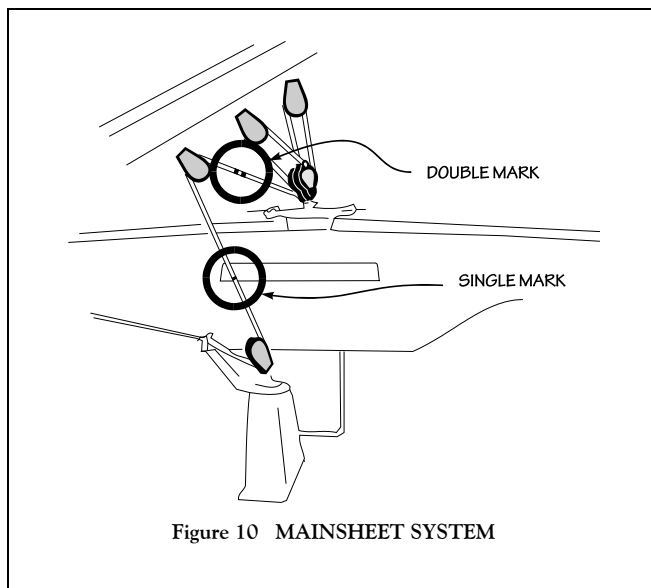

Figure 10 MAINSHEET SYSTEM
- a cam cleat assembly mounted on a pedestal aft of the bridge so that stray lines won't catch in the turning block there (see Figure 10).
Mark the sheet about 70 inches from the becket (see Figure 10) with an indelible mark or a colored whipping from an unused line (better because it won't fade) so you can reproduce trim from one beat to the next. A double mark